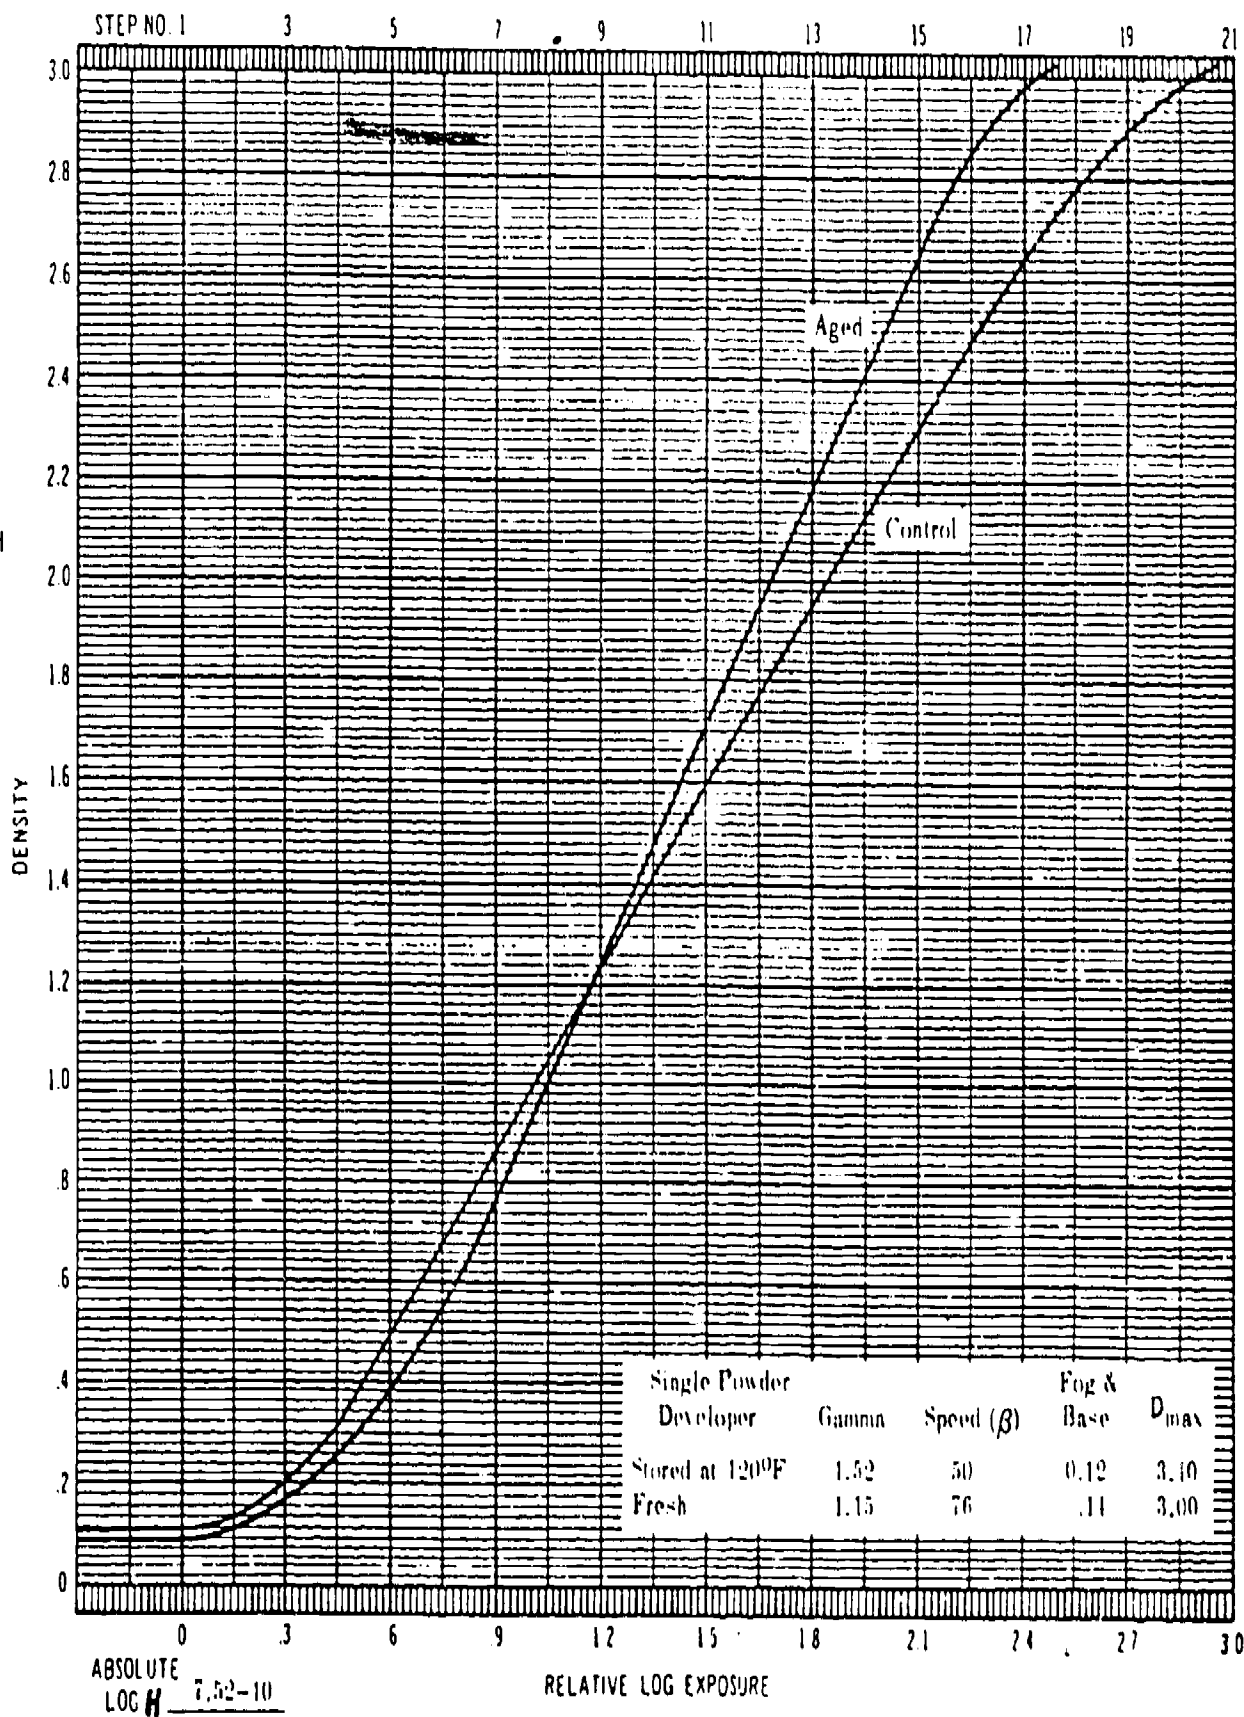

Figure 3-6. Preparation from dry ingredients (Phenidone-Glycin).
5. In figure 3-6, compare the gamma for the stored material against the controlled material.